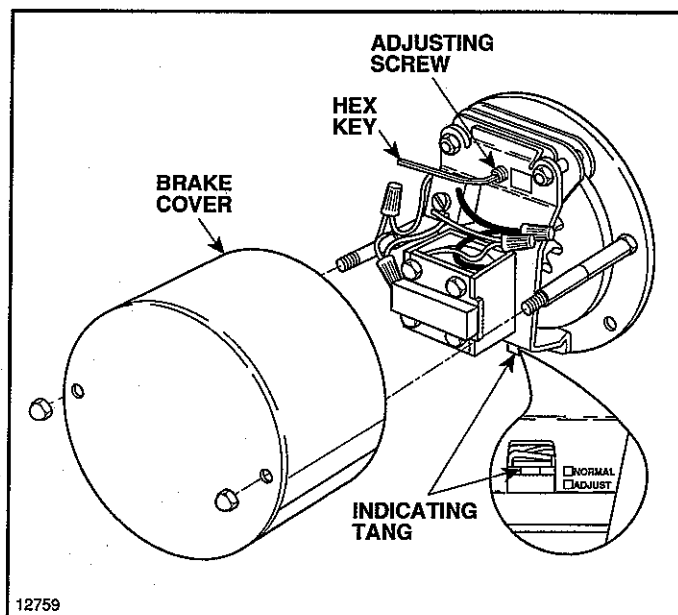

Figure 7-2. Motor Brake.
- f. Examine position of indicating tang located below the solenoid coil (Figure 7-2).